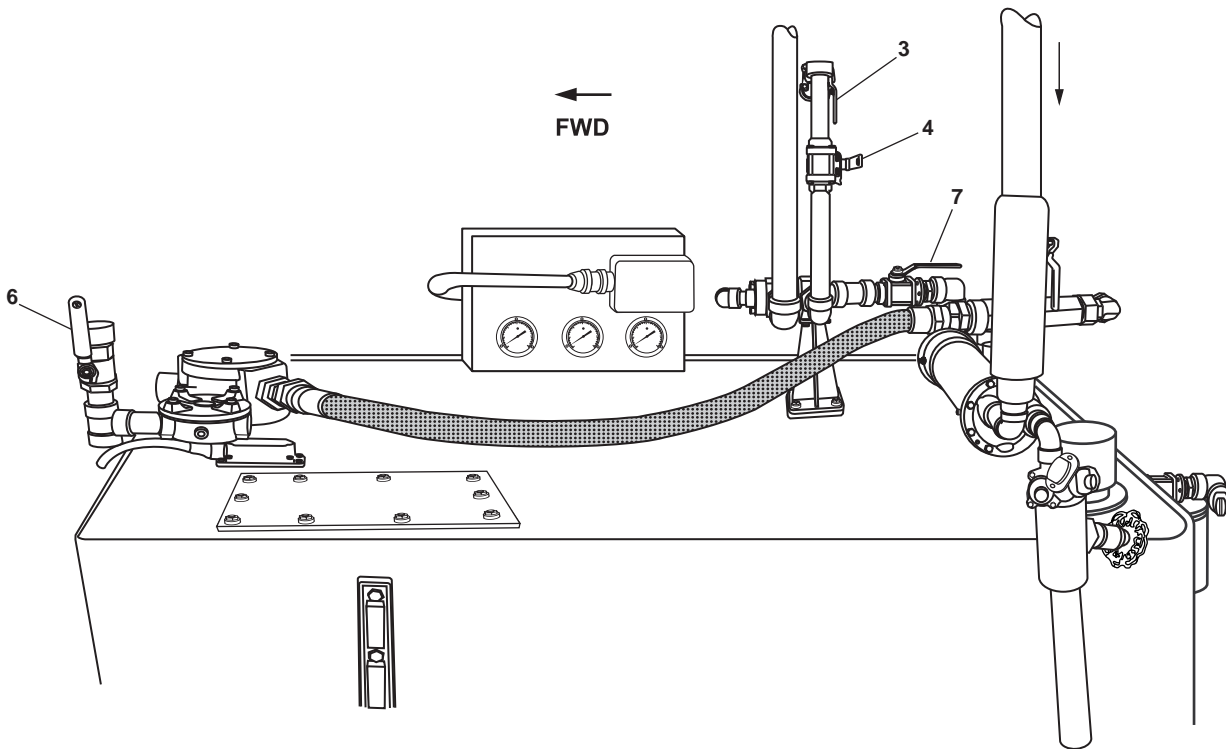

Figure 3. Towing Machine Hydraulic System Valves
- b. TH-1, C.O.V. PMP DISCH. TO TOW WN. HYD (figure 3, item 2)
- c. TH-4, RTN CRSVR. TO CENT HYD (figure 3, item 3)
- d. TH-3, PRESS/RTN. CRSVR. TO CENT HYD (figure 3, item 4)
- a. TH-14 (figure 3, item 5)
- b. CH-26, DRN. CUTOOUT TOW WN. HYDR (figure 3, item 6)
- c. CH-27, RTN. CUTOOUT TOW WN. HYDR (figure 3, item 7)